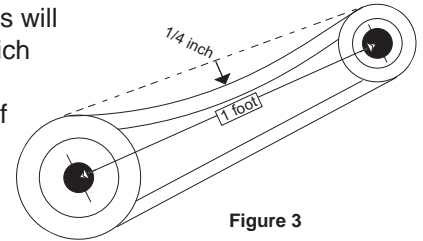

Figure 3
2. Slide the motor plate back until proper tension is reached. For proper tension a deflection of approximately 1/4" per foot of center distance should be obtained by firmly pressing the belt. Refer to Figure 3.